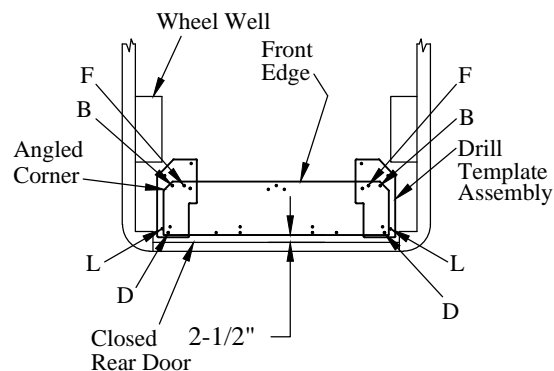

Figure 5: Drill template location (top view).
3. Place the drill template assembly in the rear of the van (Figure 5):
12. Place the drill template assembly in the rear of the van (Figure 5):